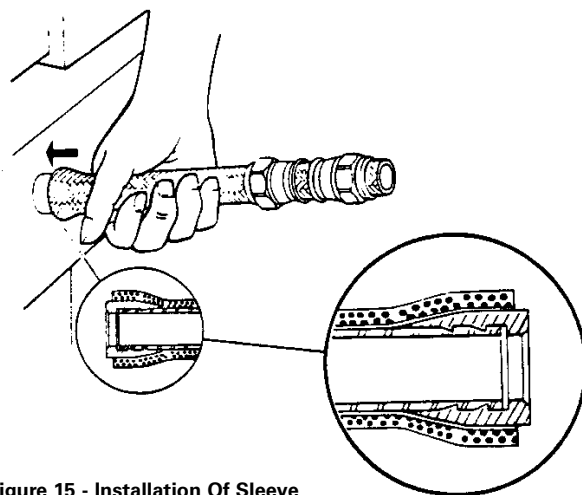

Figure 15 - Installation Of Sleeve
Step 4. Install sleeve. Carefully insert sleeve between braid and tube O.D. insuring that no wires are trapped between the sleeve and tube O.D. If the sleeve cannot be inserted over the tube, insert a neck down tool (see chart) over the end of the tube and push firmly. This will resize the tubing O.D. to accept the sleeve. Complete positioning by pushing end of sleeve against flat surface until tube bottoms against shoulder in sleeve I.D. (see Figure 15.) However, neck down tool may not be required for all sizes. Visually inspect to see that tube end is bottomed against sleeve shoulder and that no wires are trapped under sleeve.